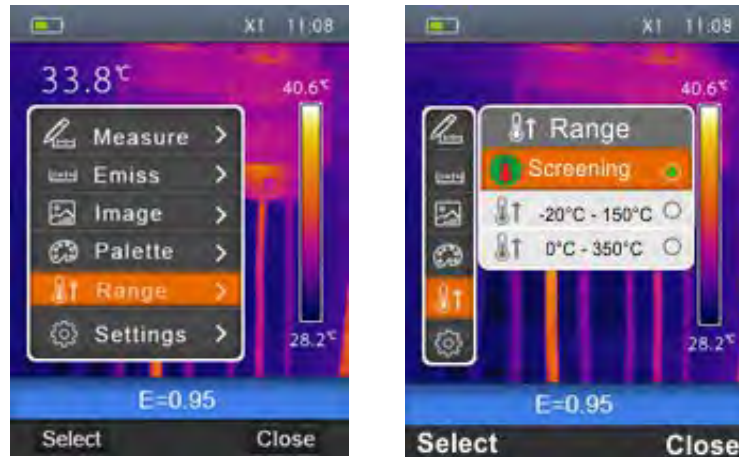

Fig. 27: Setting measuring range on the instrument
1. Select the item “Range” using the keys \oplus or \ominus and press the key . The screen Fig. 27 – Right side is shown on the display